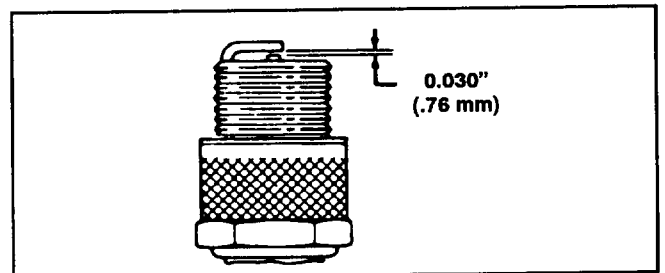

Figure 16
3. Set air gap at 0.76 mm (0.030") (Fig. 16). Install correctly gapped spark plug and gasket seal. Tighten plug firmly to 19 N·m (14 ft-lb).